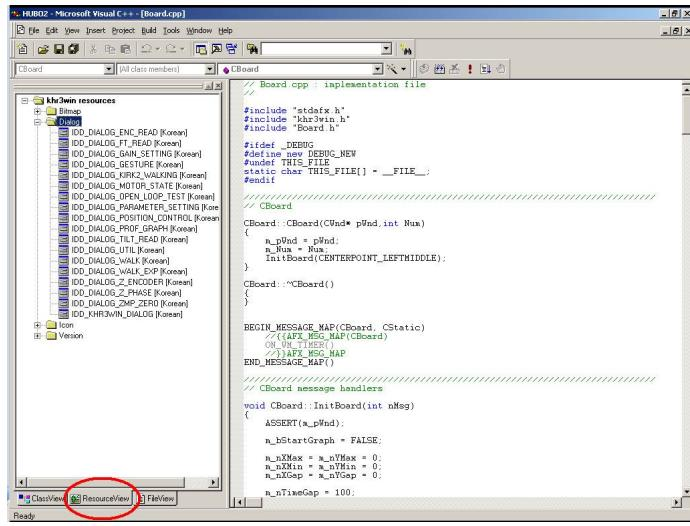

Figure 29: Goto Resource View
4. Goto *Resource View*, see Figure 29.